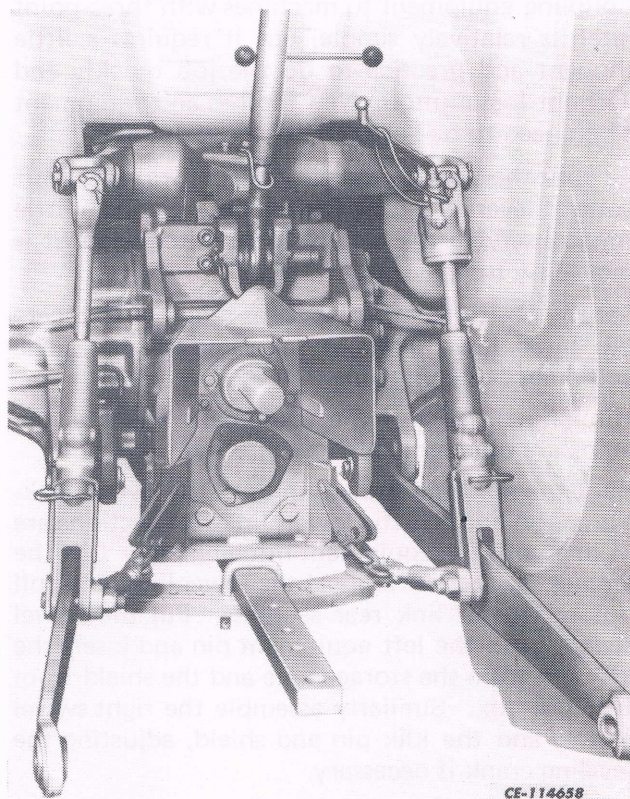
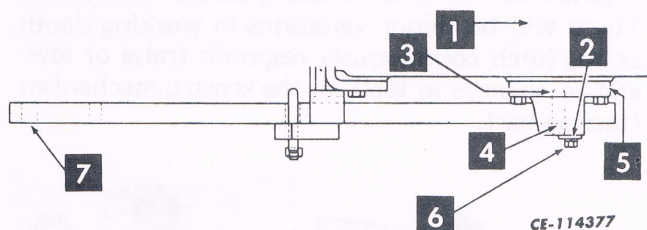

Fig. 22. Three-Point Hitch with Swinging Drawbar In Extended Position
Fig. 23. Swinging Drawbar on Machines with Three-Point Hitch
On machines with the three-point hitch, the swinging drawbar, when in the extended positions (Fig. 22), provides the standard hitch distances from the end of the power take-off shaft to the center line of the hitch hole (7, Fig. 23) for power take-off operation of trailing-type equipment.
The swinging drawbar has two holes in its forward end and may be locked in two extended positions by the pivot pin. When using the power take-off, place the pin (3, Fig. 23) through the second hole (4) from the forward end of the swinging drawbar to obtain the standard 356 mm (14-inches) hitch distance.
Lock the swinging drawbar in the center position using the "U" bolts and a hex nut at the threaded end. Refer to Fig. 22 and 23.
Remove the nut and "U" bolt. Remove the bolt (6, Fig. 23), lockwasher (6), lock plate (2), and pivot pin (3) from the pivot support (5) underneath the rear frame. Push the drawbar to the side and replace the pivot pin so that it passes alongside the drawbar. Replace the lock plate and fasten with the bolt and lockwasher.